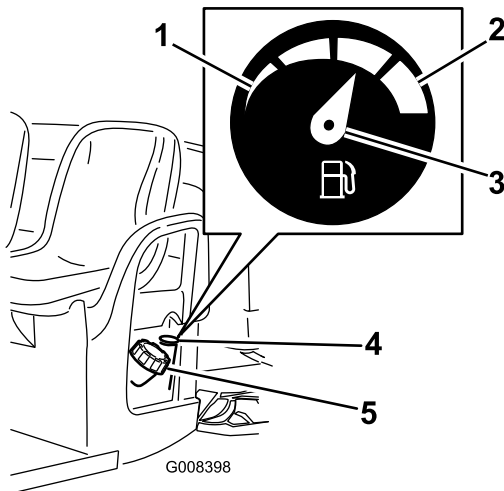

Figure 17
2. Clean the area around the fuel-tank cap (Figure 17).